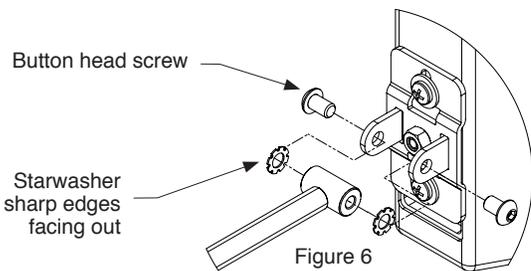

Figure 6
Step 4: Assemble support arm to the speaker adapter plate by bolting the support arm inside the flanges of the U-bracket using the 5/16 button head screws and star washers in between the flanges and the support arm (Figure 6).
The sharp edges of the star washer must face the inside surface of the speaker adapter plate flanges to achieve proper tilt locking (Figure 6).